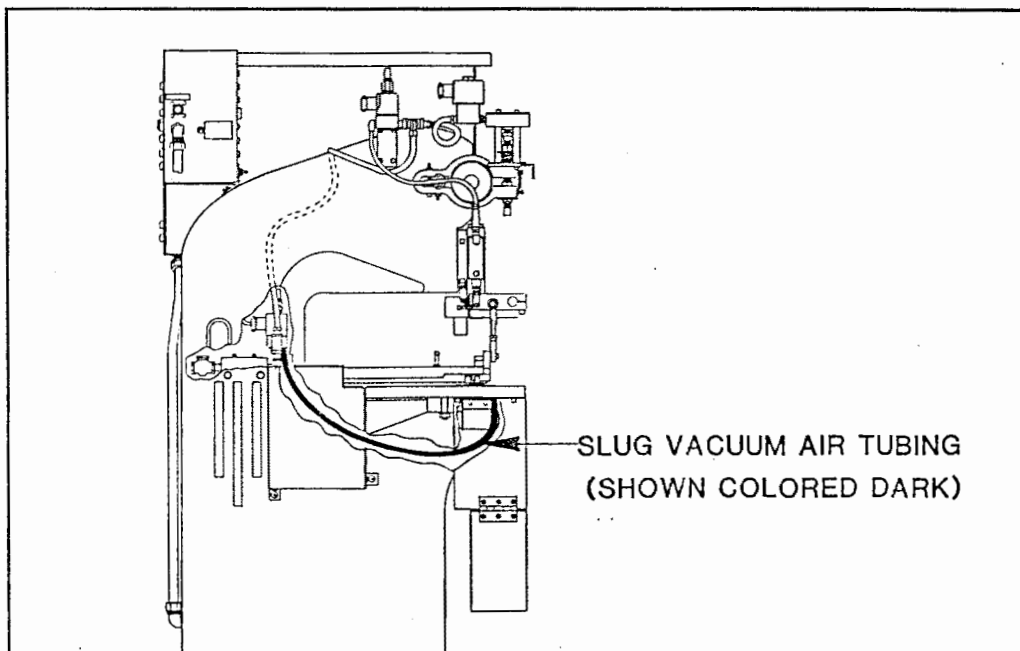

Figure 8.8 B
3. Pull slug bin (143) forward and then down to remove bin.
4. Make sure slug vacuum air tubing is hooked up to slug vacuum and solenoid valve as shown in Figure 8.8 B. If an end of the tube is disconnected, reconnect it and go to step 5.
5. Reattach slug bin (143) and tighten slug bin screws.